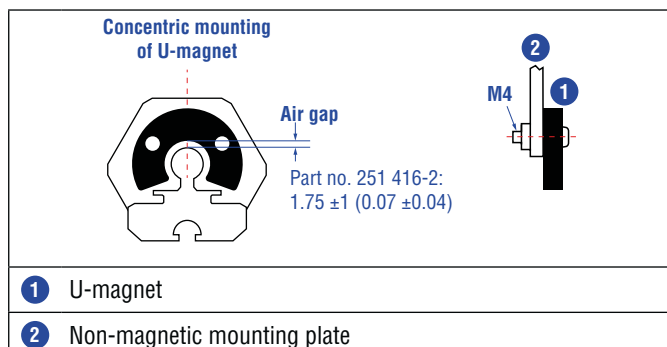
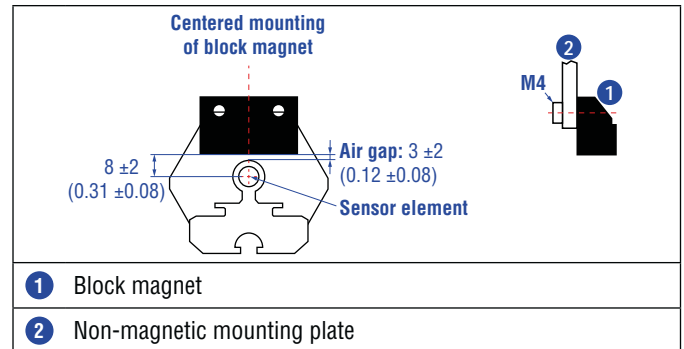

Fig. 30: Mounting of U-magnet (part no. 251 416-2)
Fig. 31: Mounting of block magnet (part no. 403 448)
- The maximum permissible air gap must not be exceeded (Fig. 30/Fig. 31). Take care to mount the primary sensor axis in parallel to the magnet path in order to avoid damage to the carriage, magnet and sensor rod/sensor profile.